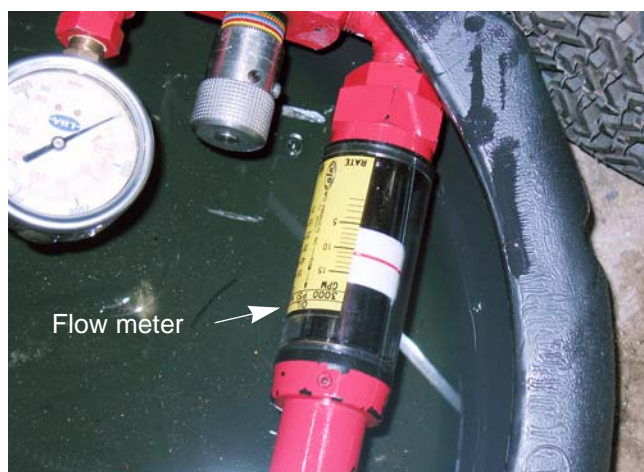

Figure 3.17
- C. Record the flow meter reading on the worksheet. See Figure 3.17.